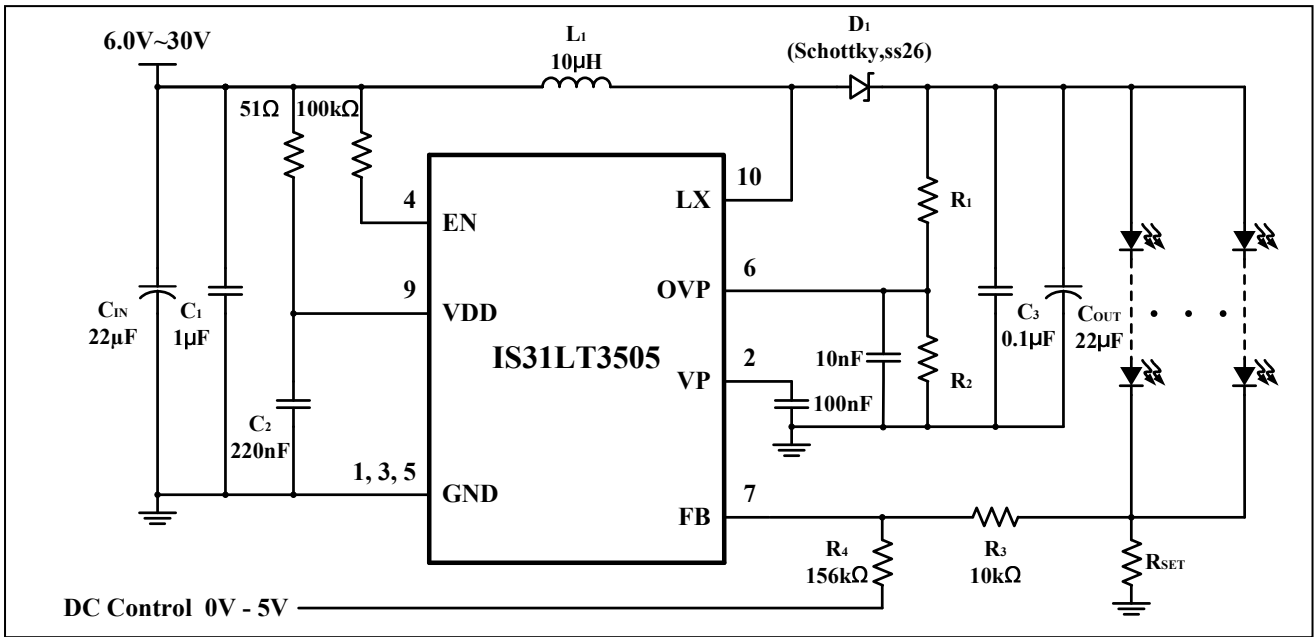

Figure 14 Application Circuit (Constant Current to Drive White LEDs With DC Dimming)
IS31LT3505 can modulate the brightness of LEDs by controlling the DC voltage or the PWM duty cycle (Figure 14, 15).
Figure 14 shows that the intensity of the LEDs can be adjusted by the DC voltage. As the DC voltage increases, the current pass through R3 increasingly and the voltage drop on R3 increase, i.e. the LED current decreases. The LED current can be calculated by the Formula (2). The internal feedback voltage  $V_{FB}$  is 0.3V (Typ.).
When the DC voltage is from 0V to 5V, the value of R3 should be 10kΩ. Refer to Figure 14.